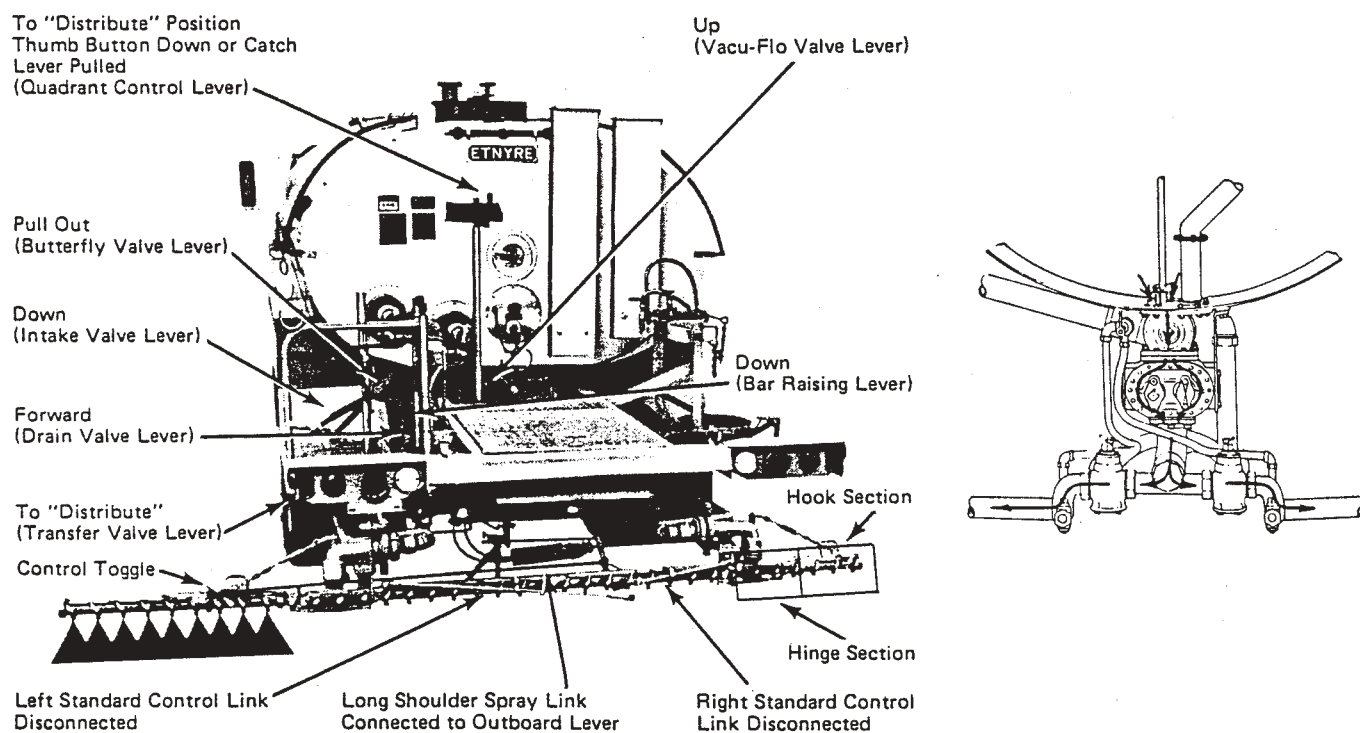

Figure 22. Shoulder Spraying With "TUC" Spray Bar (Left Side Shown)
1. Set the operating valves and levers as shown in Figure 22.